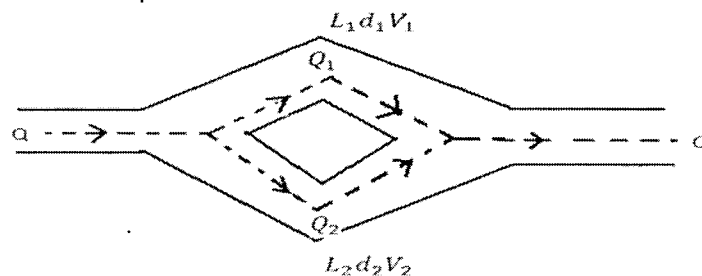

Figure -1
- 7. A main pipe divides in to two parallel pipes which again forms one pipe as shown in Figure -1 The length and diameter for the first parallel pipe are 2500 m and 1.0 m respectively, while the length and diameter of 2nd parallel pipe are 2500 m and 0.8 m. Find the rate of flow in each parallel pipe, if total flow in the main is 4.0 m³/s. The co-efficient of friction for each parallel pipe is same and equal to 0.005.